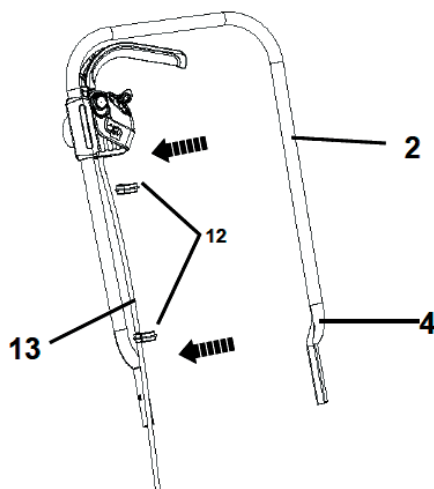

Fig. 4
3. Fix the power cord (13) with the cord clips (12) to the handle bars (2, 4) (Fig. 4).